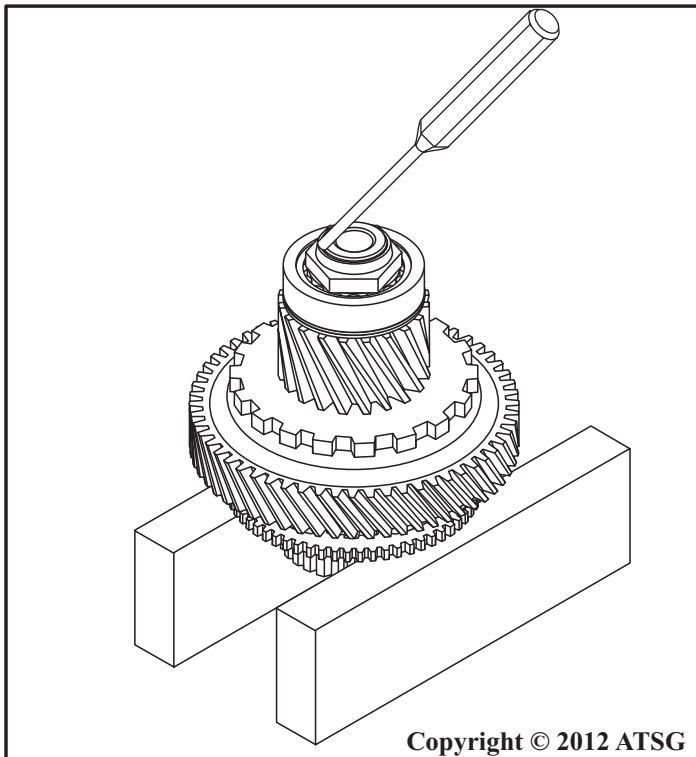

Figure 166
1. Unstake the locking nut with a punch, as shown in Figure 166.